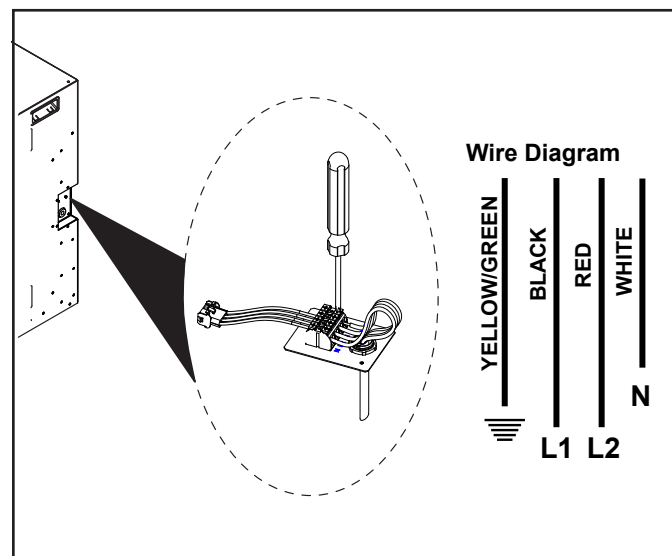

Figure 4.11 Wiring Diagram
3. Terminate type NM-B wire to the terminal block, ensure connections are secure, and tighten the strain relief. To load wire conductors into the junction block, depress the springloaded terminals on the junction block by hand or use a screwdriver. See Figure 4.11.